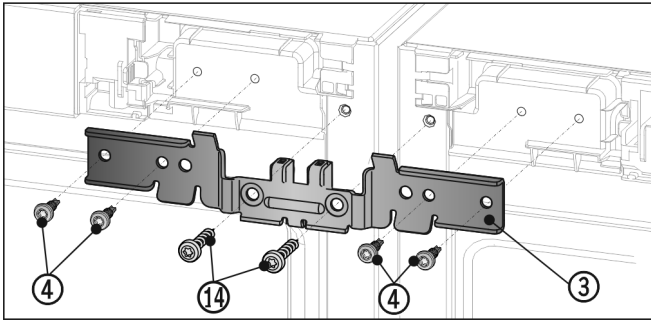

Fig. 13
- ▶ Slide the bracket Fig. 13 (3) onto the pins with the spacer between the appliances. Loosely screw in the brackets alternately right and left with four screws Fig. 13 (4) and the previously removed earthing screws Fig. 13 (14).